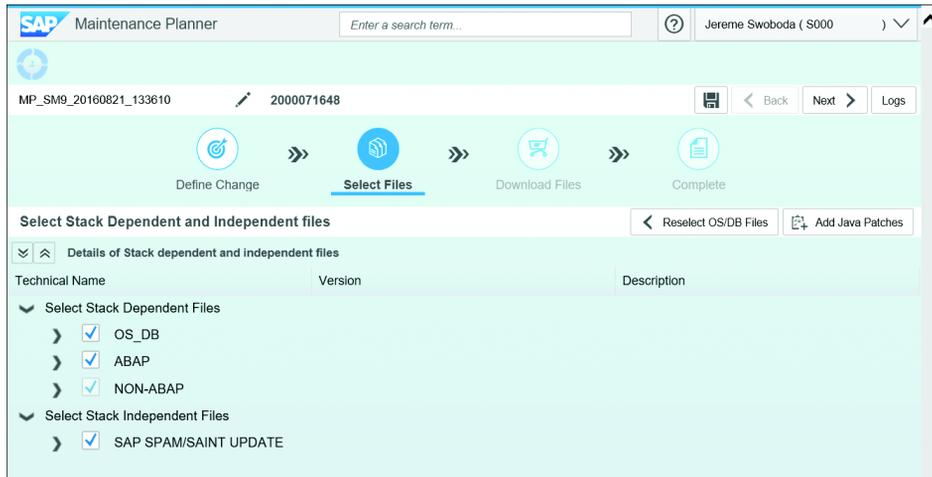

Figure 35 Detailed List of Stack Dependent and Independent Files
4. Figure 35 lists the stack-dependent and independent files. Just as in the previous step, confirm that all the automatically selected files are correct. When the verification is complete, click **NEXT**.